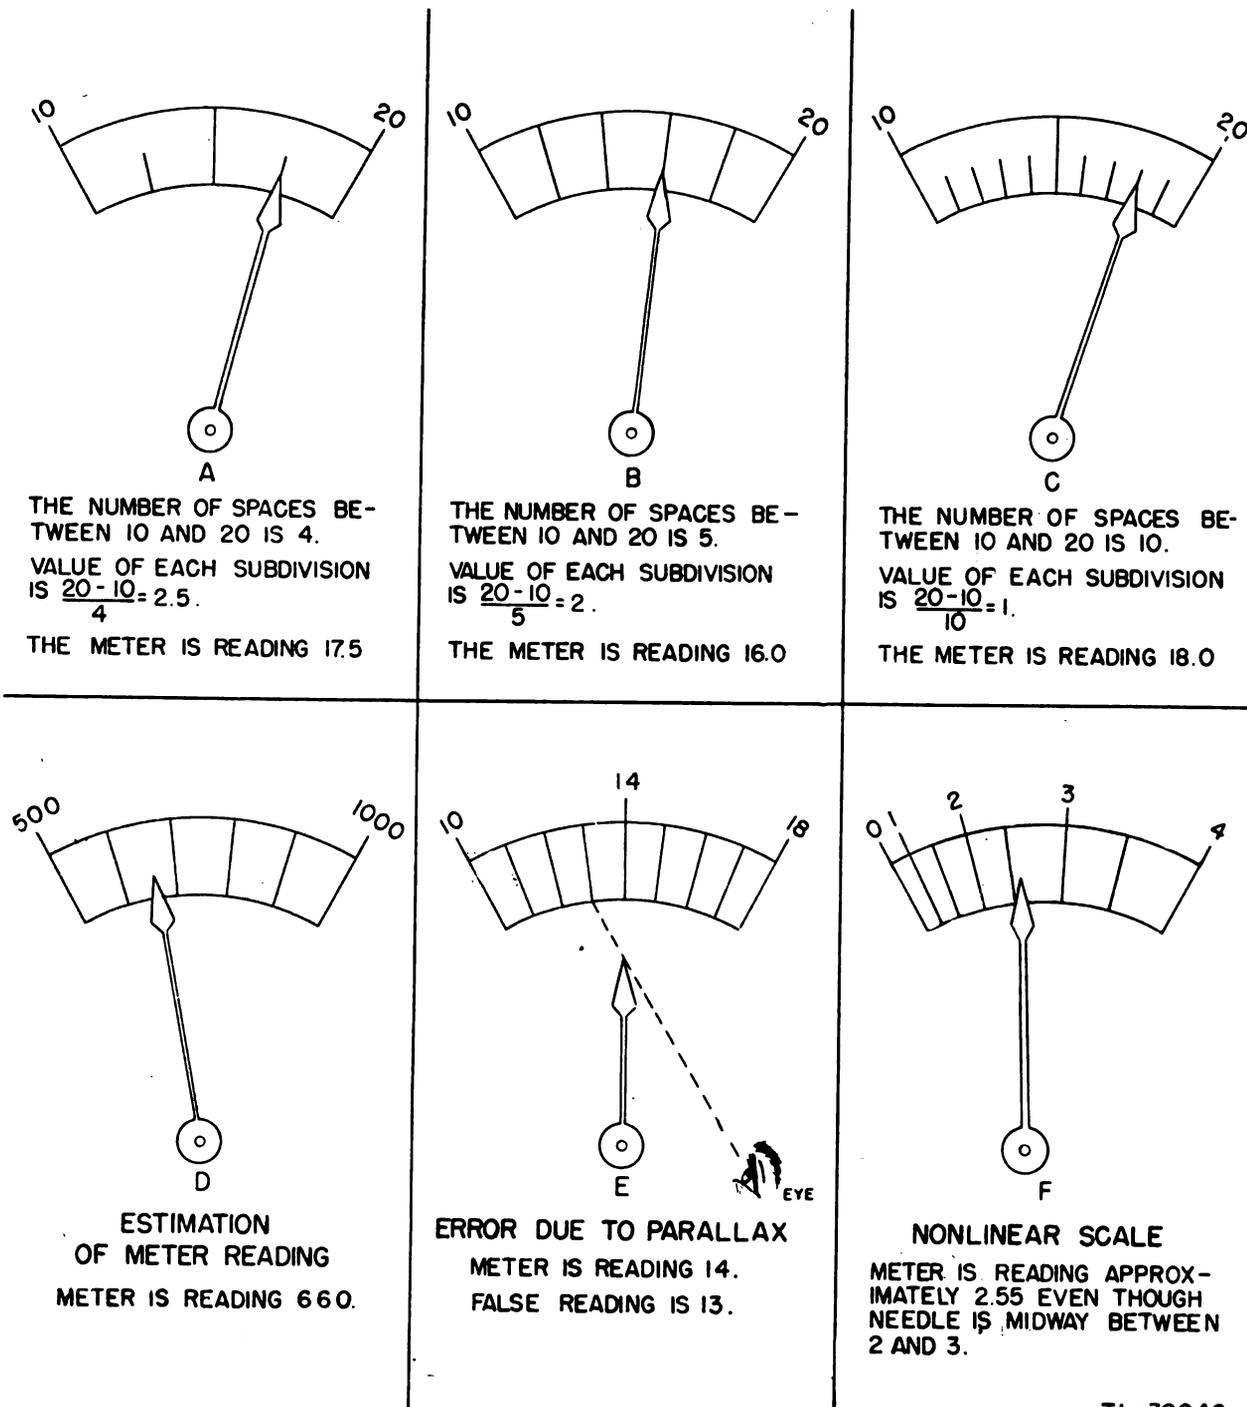

Figure 52. How to read a meter.
*b. OBTAINING VALUE OF A SUBDIVISION.* Count the divisions of scale space between the two main numbered graduations on each side of the needle. Divide the numerical difference between the two numbers by the number of divisions of scale space. This process gives the value of each subdivision, as illustrated in figure 52.